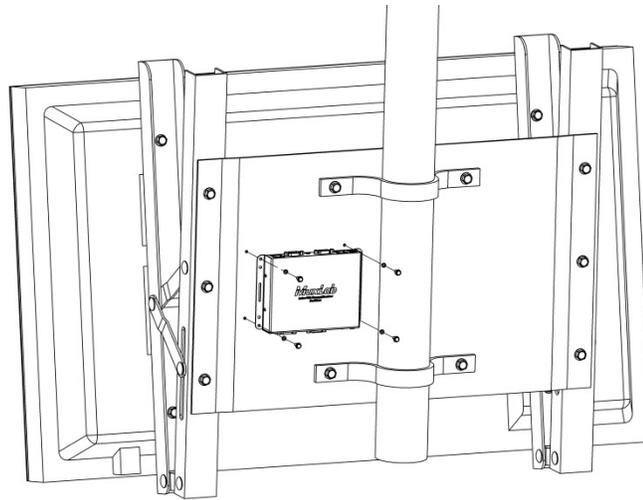

Figure 4: Typical Installation
Figure 4 demonstrates a typical installation. The Receiver is attached to the mounting system of a large-screen monitor via threaded fasteners (not included): Four (4) #6-32 screws, four (4) #6 lock washers, and four (4) #6-32 nuts (not shown).